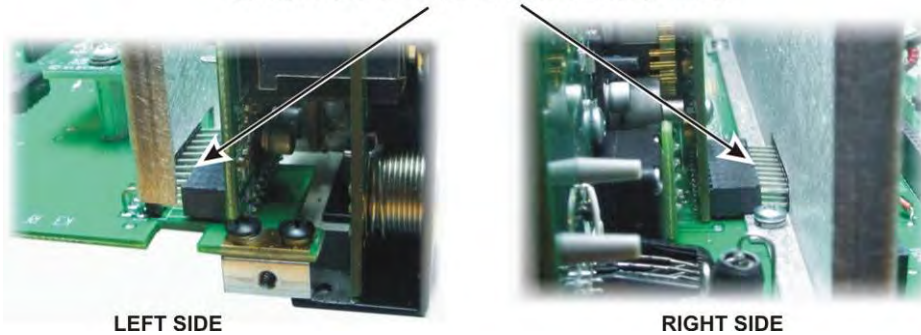

Figure 63. Mounting Front Panel Assembly - Connectors P50 and P51.
- Look at the two multi-pin connectors on the top of the RF board to see if they are engaging the corresponding connectors on the front panel assembly (see Figure 63). Adjust the position of the RF board or the front panel assembly to ensure they are mating properly.
**⚠ REMOVING THE FRONT PANEL:** If you need to remove the front panel assembly, remove the five screws holding it to the chassis (three on the top lip and two on the bottom), turn the unit upside down and use a screwdriver in the two pry slots provided as shown in Figure 64. Do not insert the screwdriver deep enough to strike components on the boards! Pry each end in short increments until the connectors separate. Either a blade (as shown) or Phillips screwdriver may be used. Note that you may need to remove the left side panel and the 2D mounting screw shown in Figure 63.